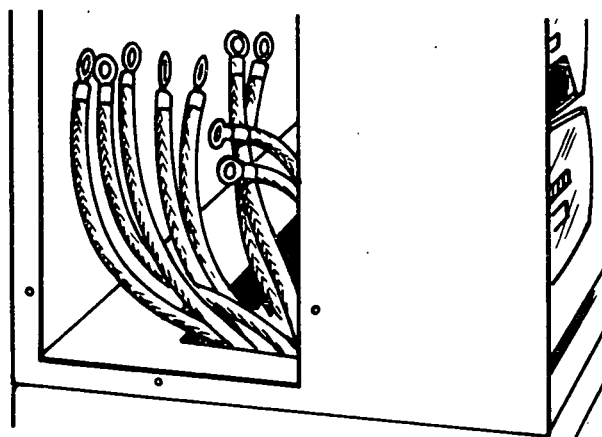

FIGURE 12. CONTROL BOX (SIDE PANEL REMOVED)
1. Remove either right, left or top panel from control box. See Figure 12.